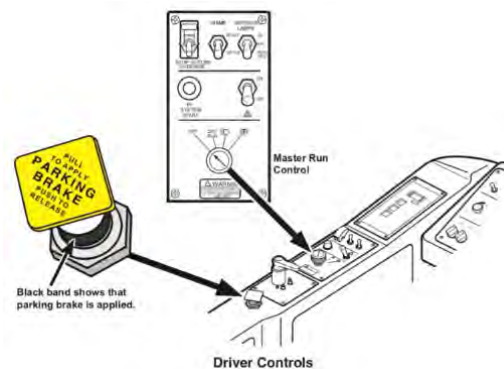

Fig. 2.1
2. Set the parking brake and select “Neutral” on the push-button Shift selector and turn the Master Run Control to the “OFF” position, as indicated in Fig. 2.1: